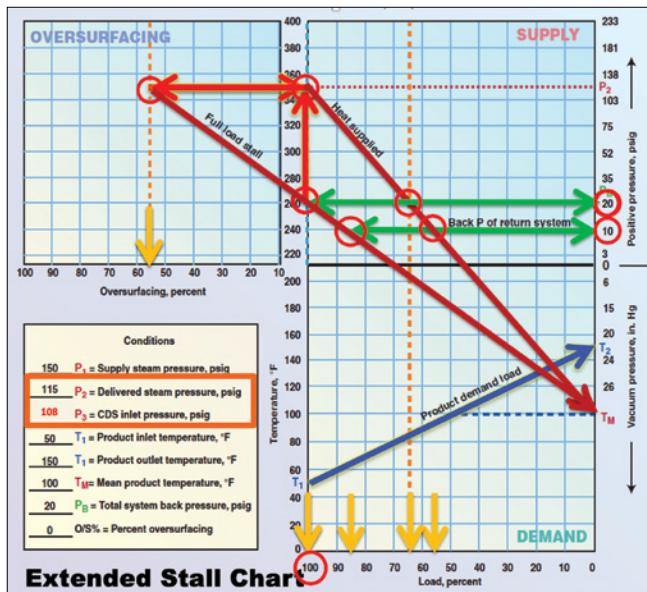

FIGURE 3. Stall points occur when the pressure profile line (maroon) intersects the back pressure line (green)
regularly treated with corrosion inhibitors as part of the normal chemical operating program (Figure 3). This reduces the risk for problems similar to those experienced by the manufacturer with the corroded vacuum pump mentioned at the opening of this article. Routine treatment with vapor-phase corrosion inhibitors also means that the system is prepared for times when, for example, the pump to the compressor chiller is turned off to allow the air-cooled chiller to take over. Protection will continue on metals in stagnant areas, as well as those that are not completely filled. With the right corrosion inhibitor selection, protection can also cover multiple alloys, including carbon steel, cast iron and copper, at once.
FIGURE 3. Chemical reactions in this tank give off heat, requiring coolant to be piped into the reactor to cool the process down. Vapor-phase corrosion inhibitors are added to the coolant on a regular basis for corrosion protection of metals inside the closed loop
The design solution for higher $\text{CO}_2:\text{NH}_3$ ratios (≥ 0.75) is to replace the overhead shell-and-tube condenser with a direct contact condenser (DCC; Figure 3). Rather than presenting a metal heat-transfer surface, the DCC sprays a subcooled liquid distillate onto the vapor stream exiting the ammonia stripping tower. The latent heat of vaporization is absorbed as sensible heat into the liquid spray, condensing the vapor. The heated liquid is then cooled via heat exchange in an external recirculation loop before returning to the DCC spray nozzle. A slip-stream is
FIGURE 3. A standard ammonia stripper with a shell-and-tube condenser is shown on the left. On the right is an ammonia stripper layout that includes a direct contact condenser (DCC)
The extended stall chart (ESC) estimates steam supply pressure for different load conditions and heat-exchange surface area (A) (from $Q = U \cdot A \cdot \Delta T$) (Figure 3). Effectively, $U \Delta T$ "reduces" as the tube bundle becomes fouled, and the steam pressure rises to adjust supply heat to the process. The horizontal green line in Figure 3 represents equipment back pressure, and the four